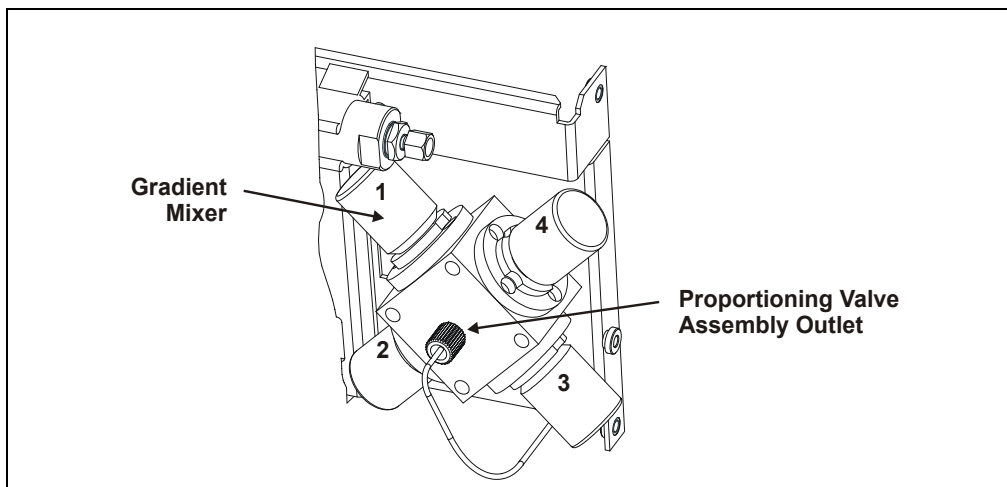

Figure 5-5. Eluent Proportioning Valve Assembly
4. Disconnect the liquid line from the outlet of the proportioning valve assembly (see Figure 5-5).
8. Align the new valve assembly as shown in Figure 5-5 and mount it to the bulkhead. Tighten the screws.